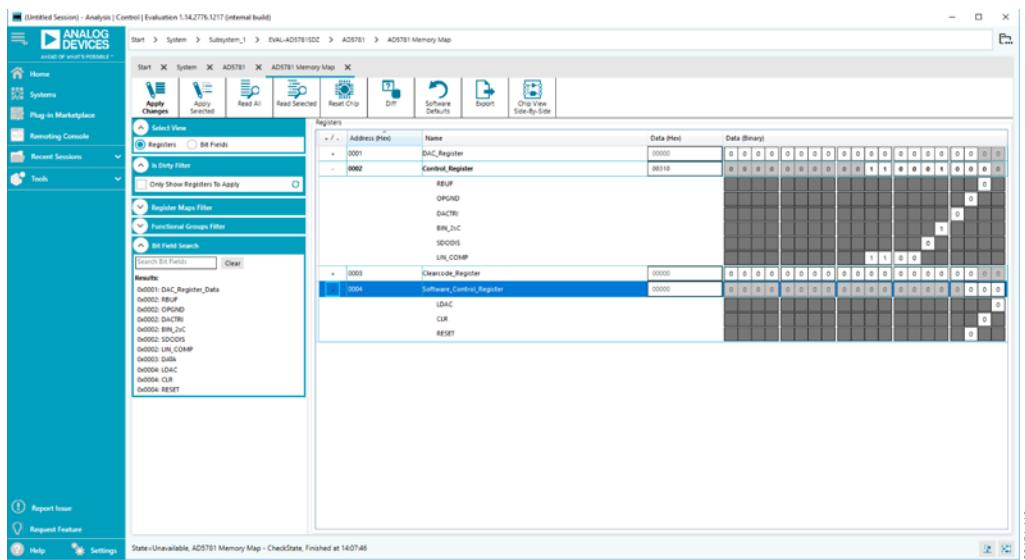
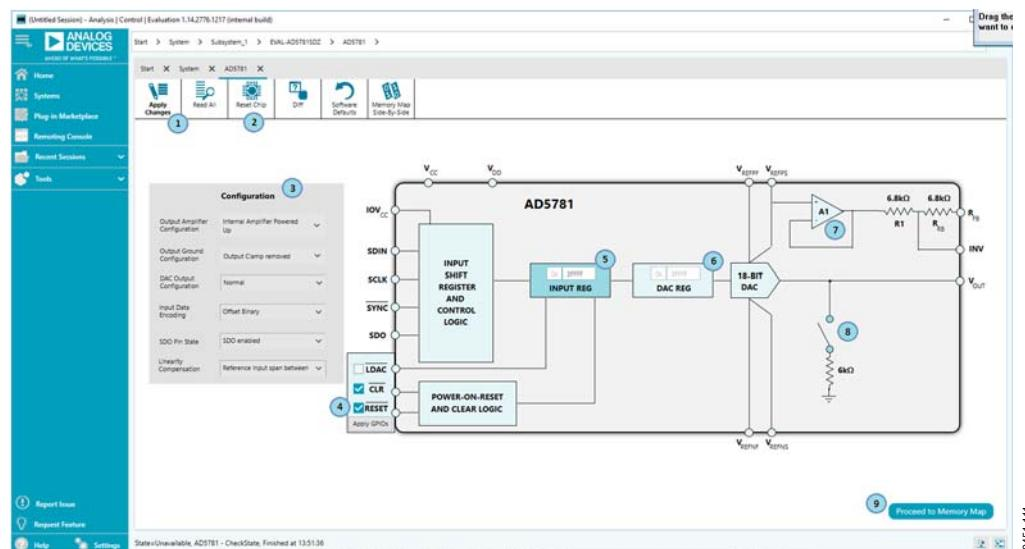
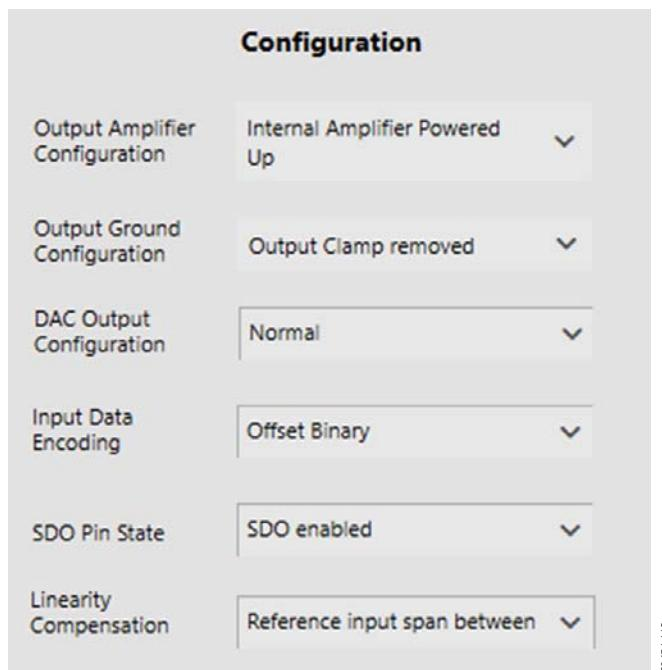

Figure 10. AD5781 Memory Map Tab for the EVAL-AD5781SDZ ACE Software
Figure 11. Main Window for the EVAL-AD5781SDZ ACE Software
Figure 12. **Configuration** Pane in the ACE Software
4. Click **Proceed to Memory Map** (Label 9 in Figure 11) to open the **AD5781 Memory Map** tab and allow access to all registers (see Figure 10). The hardware registers in the **AD5781** are not altered until the user clicks **Apply Changes**.
For a details on the GUI options, see Table 6, Figure 11, and Figure 12.
1 See Figure 11.